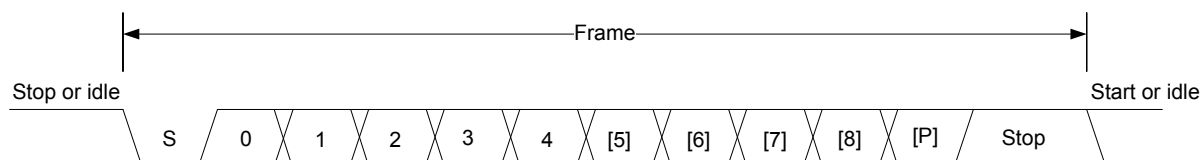

Figure 19.2. USART Asynchronous Frame Format
The frame format used in asynchronous mode consists of a set of data bits in addition to bits for synchronization and optionally a parity bit for error checking. A frame starts with one start-bit (S), where the line is driven low for one bit-period. This signals the start of a frame, and is used for synchronization. Following the start bit are 4 to 16 data bits and an optional parity bit. Finally, a number of stop-bits, where the line is driven high, end the frame. An example frame is shown in Figure 19.2 USART Asynchronous Frame Format on page 536.